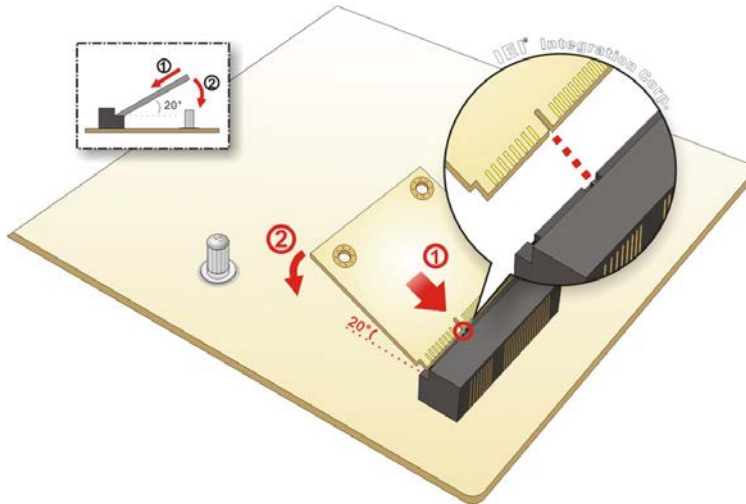

Figure 4-12: Inserting the Half-size PCIe Mini Card into the Slot at an Angle
Step 3: Insert into the socket at an angle. Line up the notch on the card with the notch on the slot. Slide the PCIe Mini card into the slot at an angle of about 20° (**Figure 4-12**).